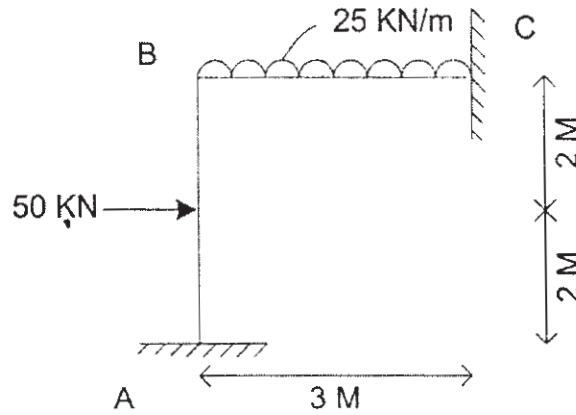

Fig. Q.7
**Q7)** Analyze the frame as shown in fig.Q.7 by Flexibility Method. Draw SFD & BMD Assume EI constant [16]